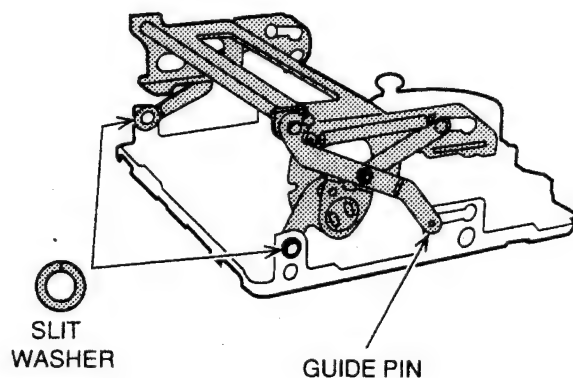

Fig. 3-19
1. Remove the slit washers on both the left and right sides of the MECHA. BLOCK as shown in Fig. 3-19.